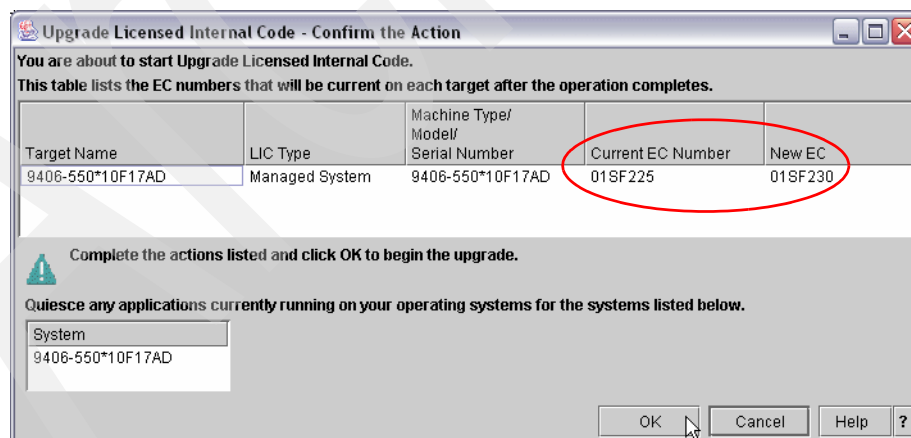

Figure 14-44 Upgrade LIC - Confirm the Action screen
- The Upgrade LIC - Confirm the Action window appears (Figure 14-44). The current EC number (current installed firmware level) and the new EC number (new firmware level to be installed) are shown.